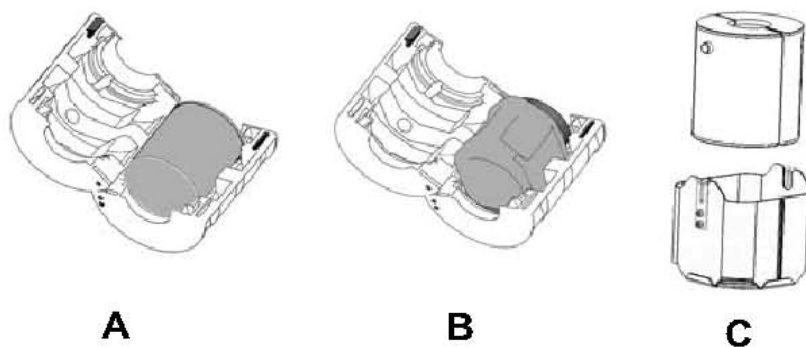

Fig. 3: Using the Can Adapter
- Quar Cans.** Place the can inside the special adapter (Fig. 3). Set round quart cans horizontally, with lid up (A); set square square quart cans horizontally, lid up (B). Insert the adapter into the can holder. Make sure the adapter lugs are lined up with the bail retainers (C) and adapter is all the way to the bottom of the canholder.